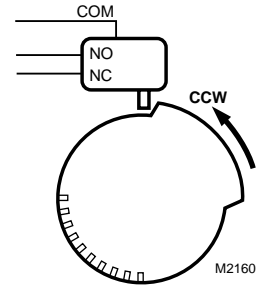

Fig. 12. Switching configuration for CCW rotation (top view).
1. Determine desired switching action (i.e., if switch energizing is to occur during CW or CCW rotation). With switch cam as shown in Fig. 12, the normally closed contact opens in CCW rotation. The normally open contact closes. Conversely, with switch cam as shown in Fig. 13, the normally closed contact opens during CW rotation and the normally open contact closes.